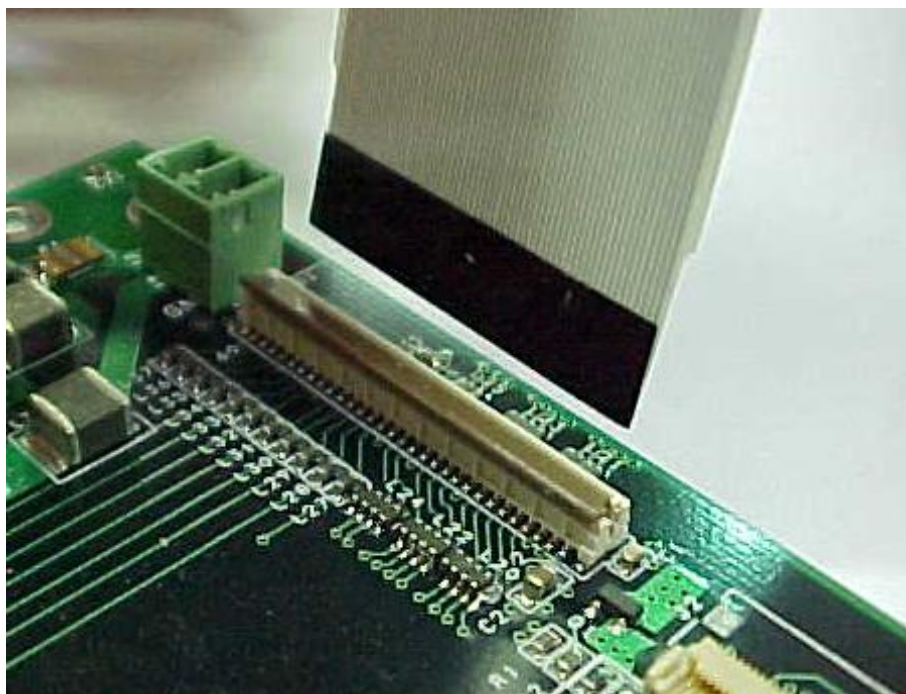

Figure 6.2 **Display Cable Insertion**
2. Gently insert the cable with the dark insulated side towards the cam (see Figure 6.2). When inserting the cable make sure that it is not tilted to one side or the other and that the bottom of the cable is completely seating in the connector.